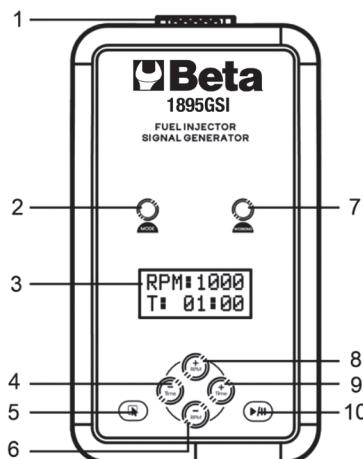

Fig. 1
- Select the required simulated revolving speed by pressing buttons “+” (8 Fig. 1) and “-” (6 Fig. 1).
- Set the duration of the process by pressing buttons “+” (9 Fig. 1) and “-” (4 Fig. 1).